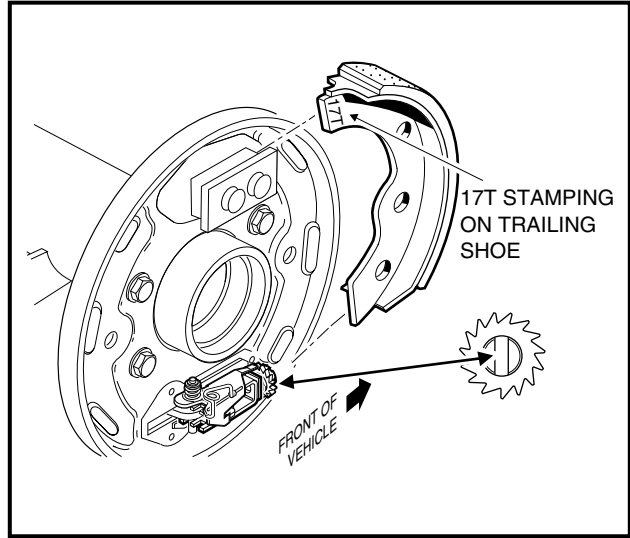

Figure 6-12 Trailing Shoe
1. Turn the adjusting wheel screw so the shoe slot is vertical, then position the trailing shoe in the slots in the shoe mounting block and adjuster assembly (Figure 6-12, Page 6-7). See following **NOTE**.
**NOTE:** The trailing shoe has 17T stamped into the tip of the shoe flange (Figure 6-12, Page 6-7). The leading shoe is stamped 17L. When installing the shoes, the stampings on both shoes should be oriented to the top of the brake assembly. When installing the shoes on the passenger side of the vehicle, the side of the trailing shoe flange marked 17T should be facing out and be visible. On the driver side, the 17L on the leading shoe should be facing out and be visible.